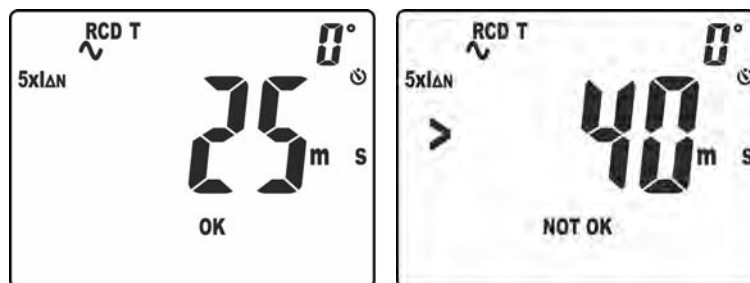

Fig. 36: Tripping time in manual mode at  $5xI_{\Delta n}$
- 10. The correct measurement result is shown on the display (see Fig. 36 – left side) with indication “OK”
- 11. The wrong measurement result (**tripping time > 40ms**) is shown on the display (see Fig. 36 – right side) with indication “NOT OK”. The buzzer gives a short continuous sound
- 10. The correct measurement result is shown on the display (see Fig. 36 – left side) with indication “OK”. Notice the presence of tripping time on the top of the display on the right side.
- 11. The wrong measurement result is shown on the display (see Fig. 36 – left side) with indication “NOT OK” (**tripping current > 33mA**). The buzzer gives a short continuous sound